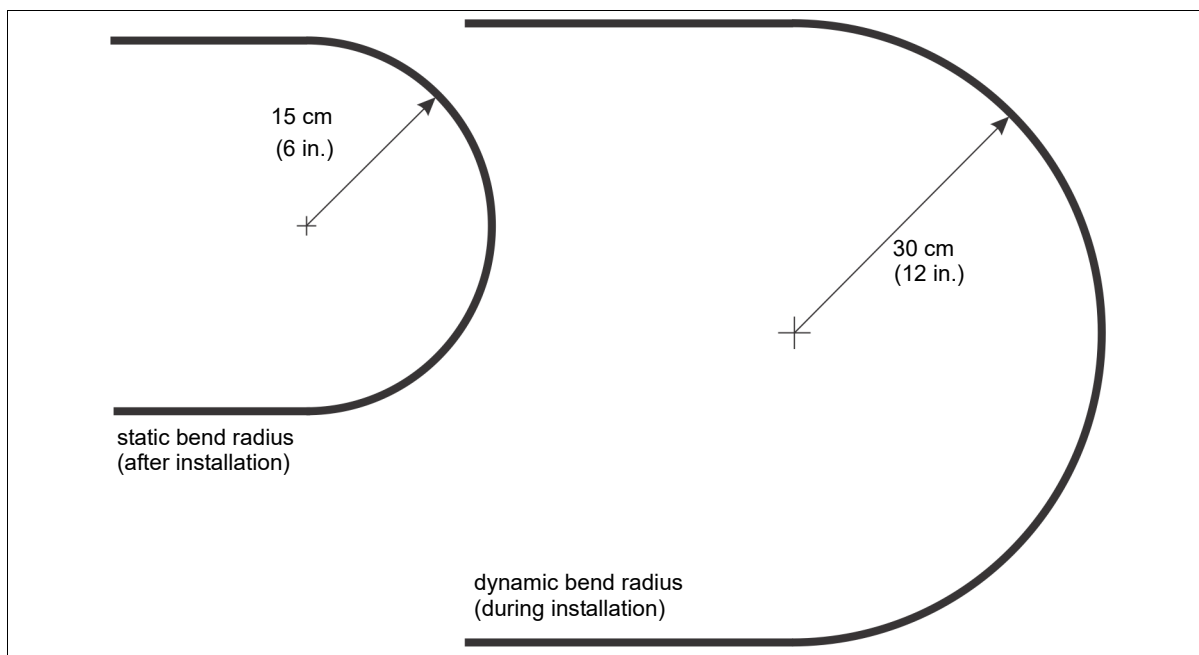

Figure 66: Smallest allowable bend radius (sensor cable)
- smallest allowable bend radius, armored sensor cable: during installation (dynamic) 30 cm (12 in.); installed (static) 15 cm (6 in.) (see Figure 66:)